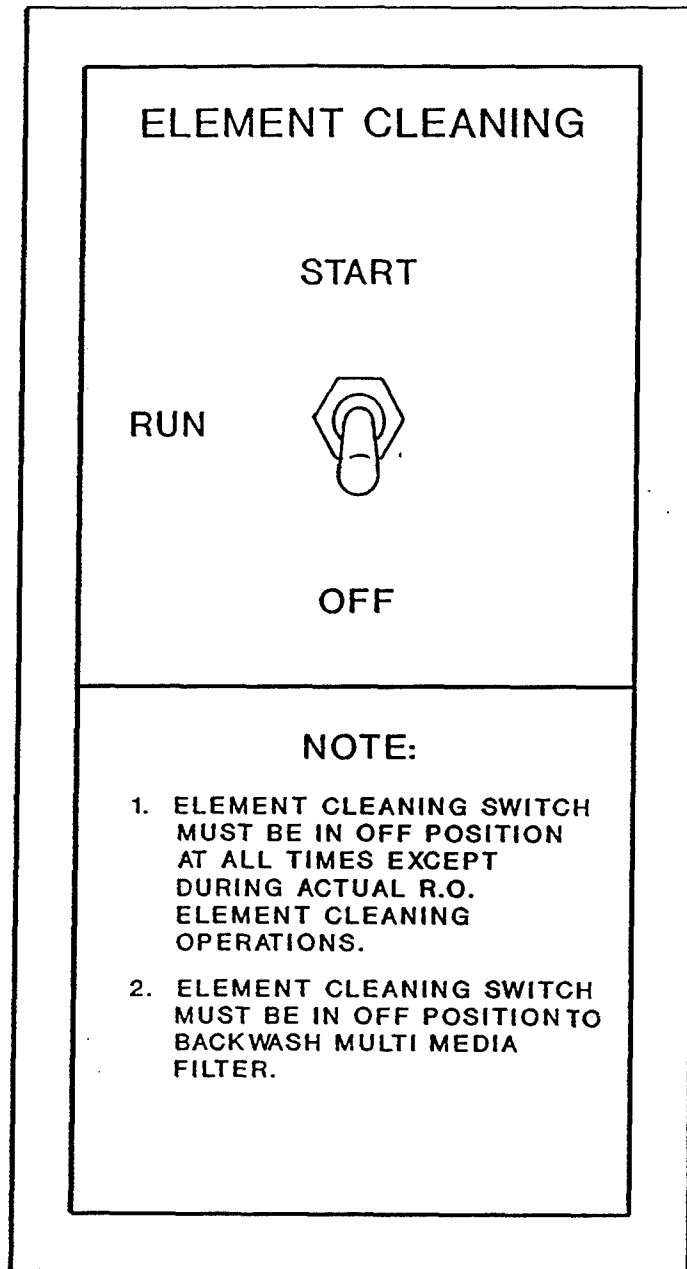

Figure 2-6. Element Cleaning Switch.
- g. Ensure element cleaning switch located on the left side of the ROWPU is in the "OFF" position as shown in figure 2-6.